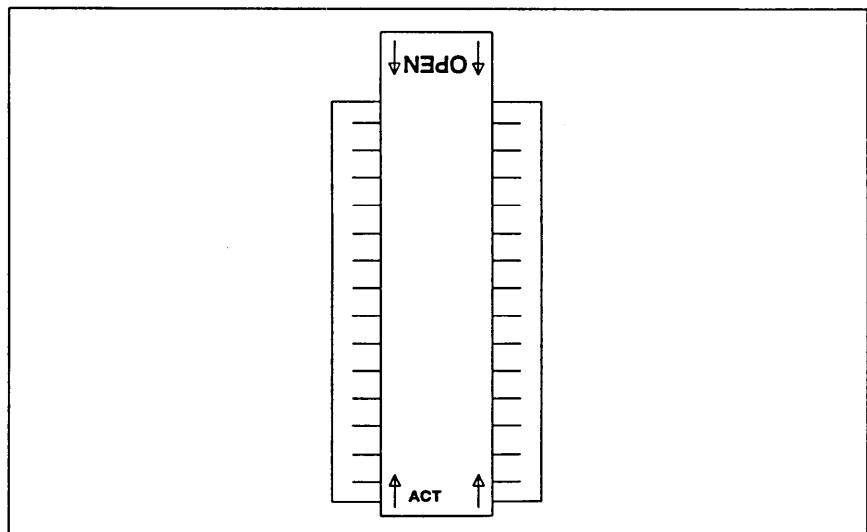

Figure 7. EPROM locking tab (pictured in locked (ACT) position)
- a. Push the locking tab in the direction of the arrow labeled OPEN to release the EPROM from its socket. Refer to Figure 7.